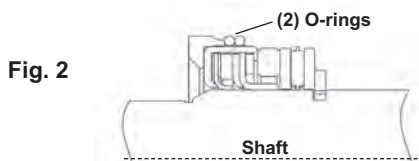

Fig. 2
- Assemble two o-rings on the outside body of the new seal cartridge assembly as shown in Fig 2. Install o-rings one at a time and do not roll over each other.